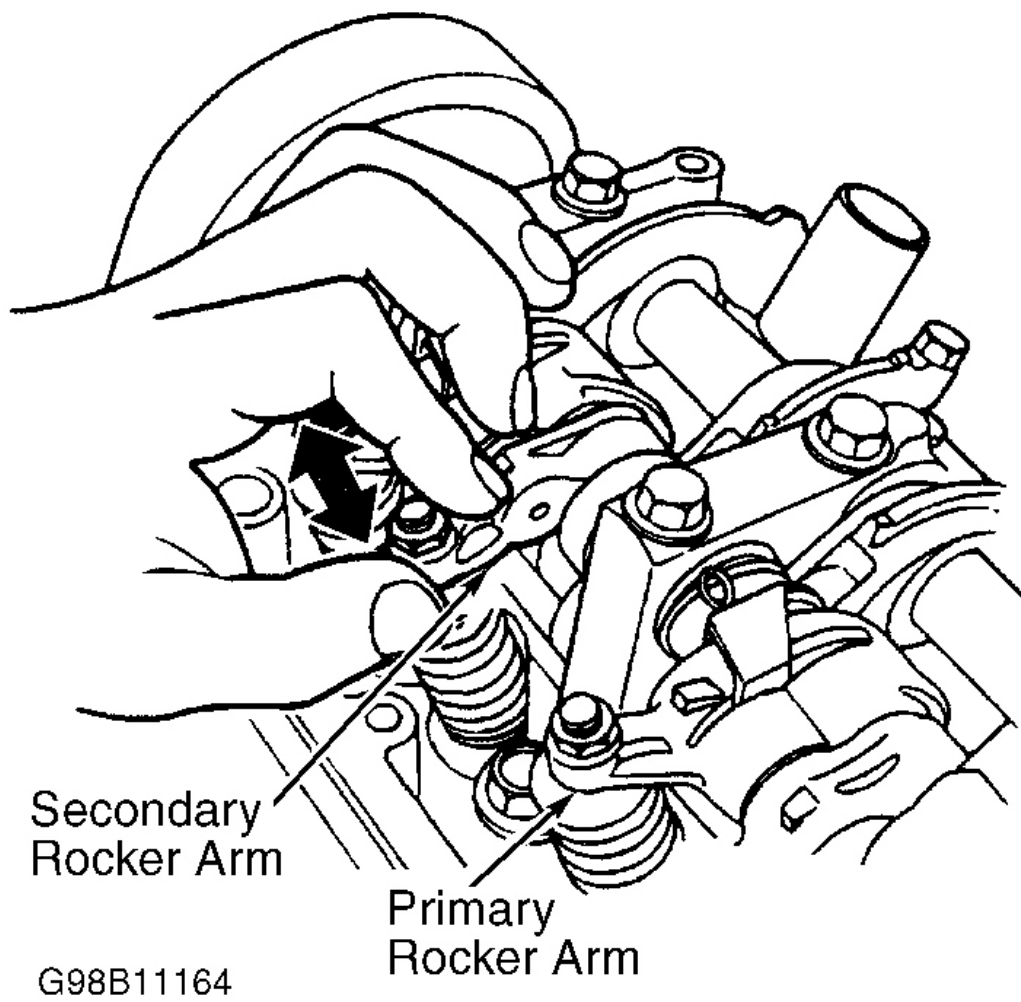
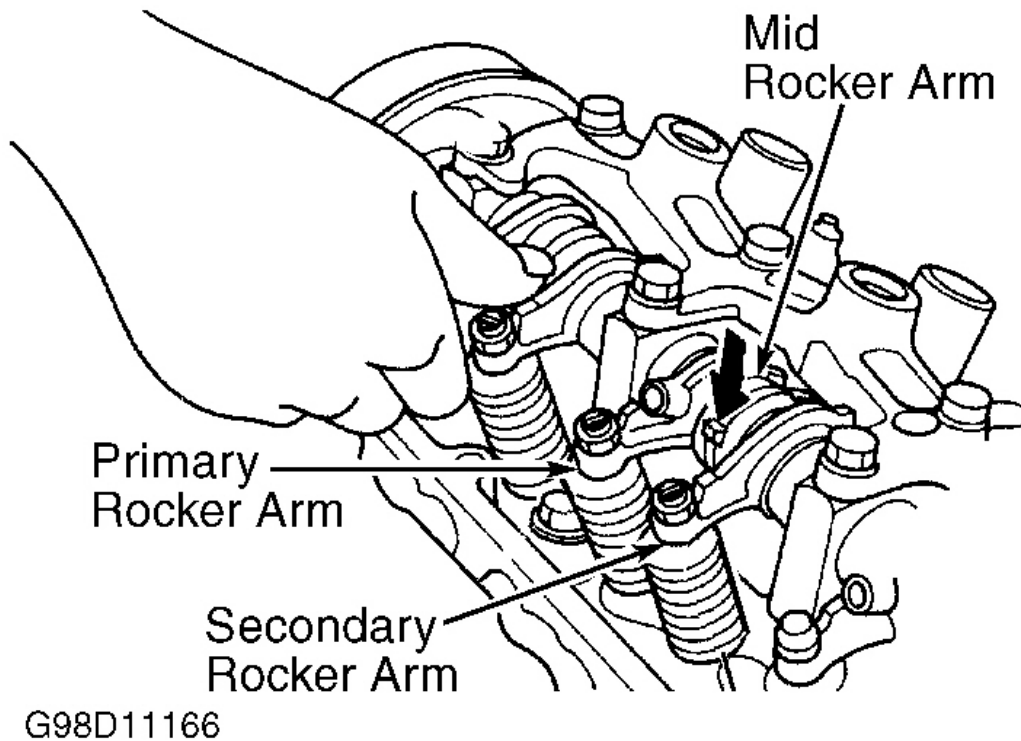
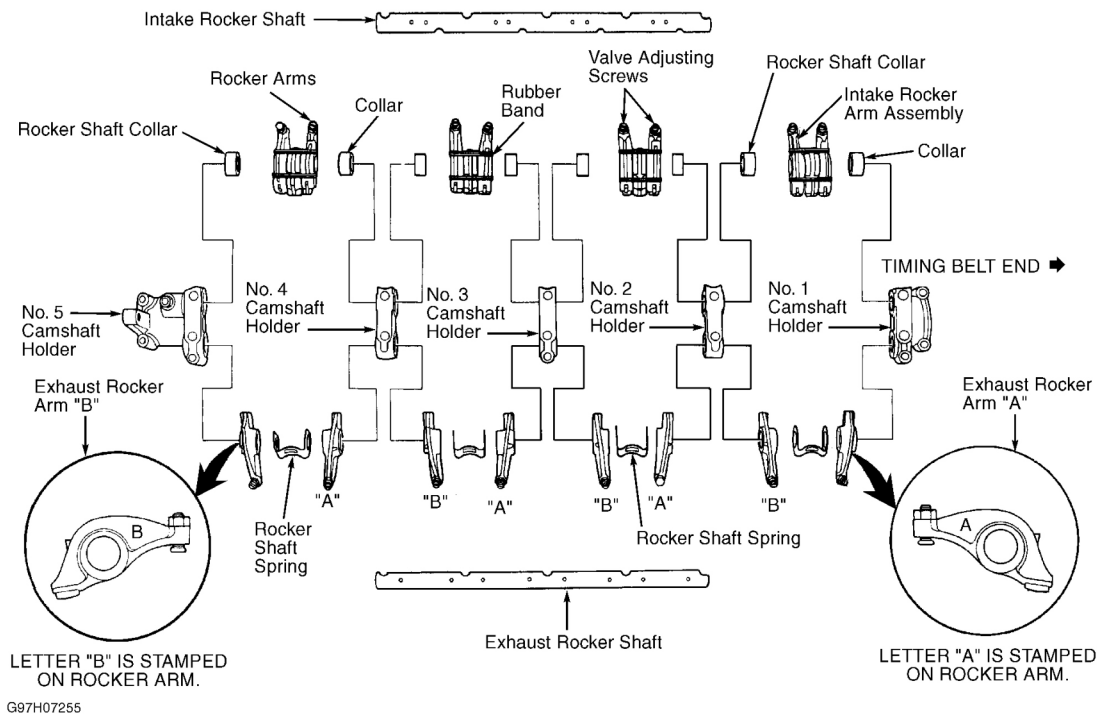
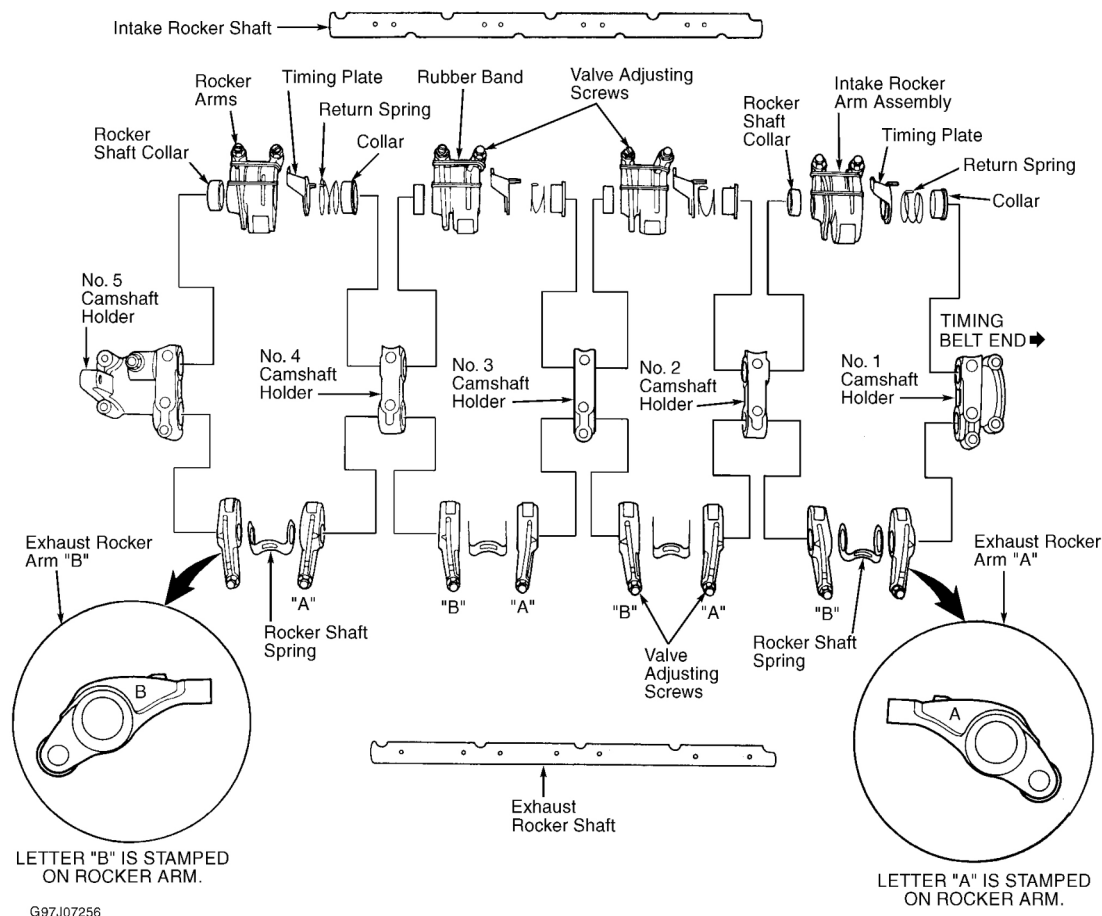

Fig. 12: Checking Intake Rocker Arms (VTEC-E)
Fig. 13: Checking Intake Rocker Arms (VTEC)
Fig. 14: Identifying Rocker Arm Assembly Components (D16Y8 Engine - VTEC)
Fig. 15: Identifying Rocker Arm Assembly (D16Y5 Engine - VTEC-E)
1. Set No. 1 piston at Top Dead Center (TDC) and remove valve cover. See **Fig. 1** and **Fig. 3**. Ensure valve clearance is correct. See **VALVE CLEARANCE ADJUSTMENT** under ADJUSTMENTS. On VTEC engines, manually push intake mid rocker arm on No. 1 cylinder. On VTEC-E engines, manually push and pull intake secondary rocker arm on No. 1 cylinder. See **Fig. 12** or **Fig. 13**. On all models, rocker arm being moved should move independent of other intake rocker arm(s) for same cylinder. Rotate crankshaft counterclockwise and repeat test for each cylinder at TDC.
2. On VTEC engines, if intake mid rocker arm does not move, remove intake mid, primary and secondary rocker arms as an assembly. A rubber band can be used to hold rocker arms together. See **Fig. 14**. Ensure pistons in mid and primary rocker arms move smoothly. On VTEC-E engine, if secondary rocker arm does not move, remove primary and secondary intake rocker arms as an assembly. A rubber band can be used to hold rocker arms together. See **Fig. 15**. Ensure pistons in rocker arms move smoothly. On all models, if any rocker arm needs replacing, replace all rocker arms as an assembly.
3. On VTEC engine, ensure intake primary and secondary rocker arms are mechanically connected by synchronizing pistons. Ensure mid rocker arm does not move when pushed manually. If any intake mid rocker arm moves independent of primary and secondary rocker arms, replace rocker arms as a set. See **Fig. 13** and **Fig. 14**. Repeat procedure for each cylinder, with cylinder at TDC. If rocker arm operation is as specified, go to next step.
5. On VTEC-E engine, timing plate is used to lock synchronizing piston inward or outward. See **Fig. 15**. Push timing plate up and ensure synchronizing piston pops out and engages intake secondary rocker arm. Ensure intake primary and secondary rocker arms are mechanically connected by synchronizing piston. Synchronizing piston should be visible between rocker arms. With timing plate engaged in timing piston groove, synchronizing piston should be locked in outward position.
Remove valve cover. Loosen all valve adjuster screws. Loosen camshaft holder bolts 2 turns at a time in proper sequence, but DO NOT remove holder bolts. See **Fig. 7**. Remove rocker arm assembly with camshaft holder bolts in place. See **Fig. 14 Fig. 15** and **Fig. 16**. Camshaft holder bolts will keep camshaft holders, springs and rocker arms on rocker shaft. Bundle rocker arms with a rubber band to keep assembly together. Ensure components that are reused are installed in original locations.